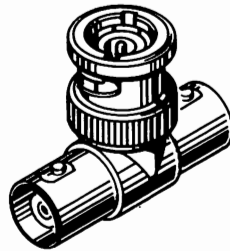

Figure 2-11. BNC T-adapter
- Locate the BNC T-adapter that came with your XC 24 Network Access Kit. See Fig. 2-11.